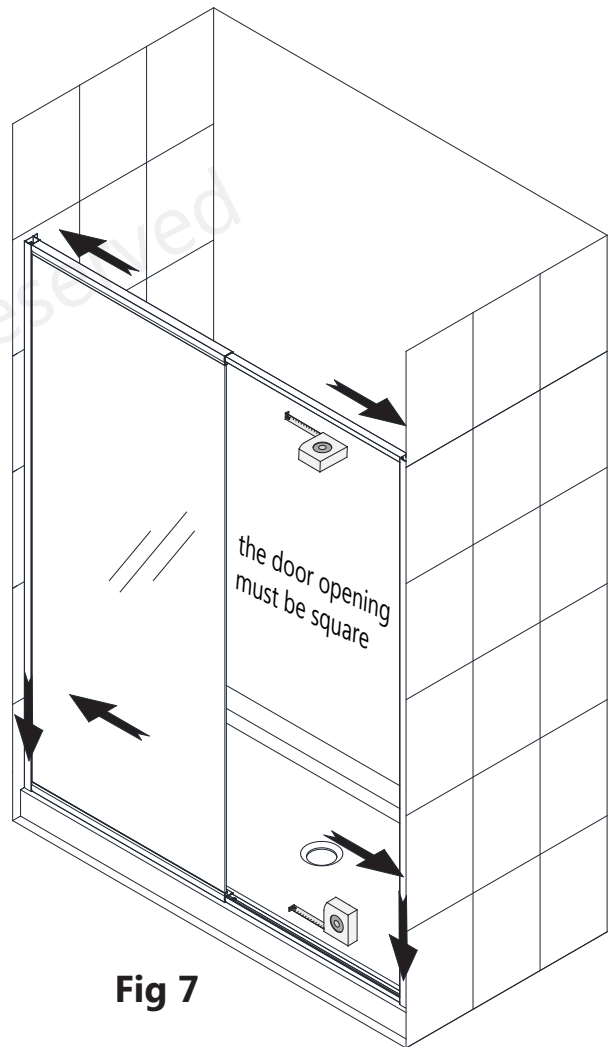

**Fig 6**
**6.** Place the assembly onto the threshold at the desired location and extend the expandable **Top & Bottom Pivot Rails (#15)** evenly. **(Fig 6)**